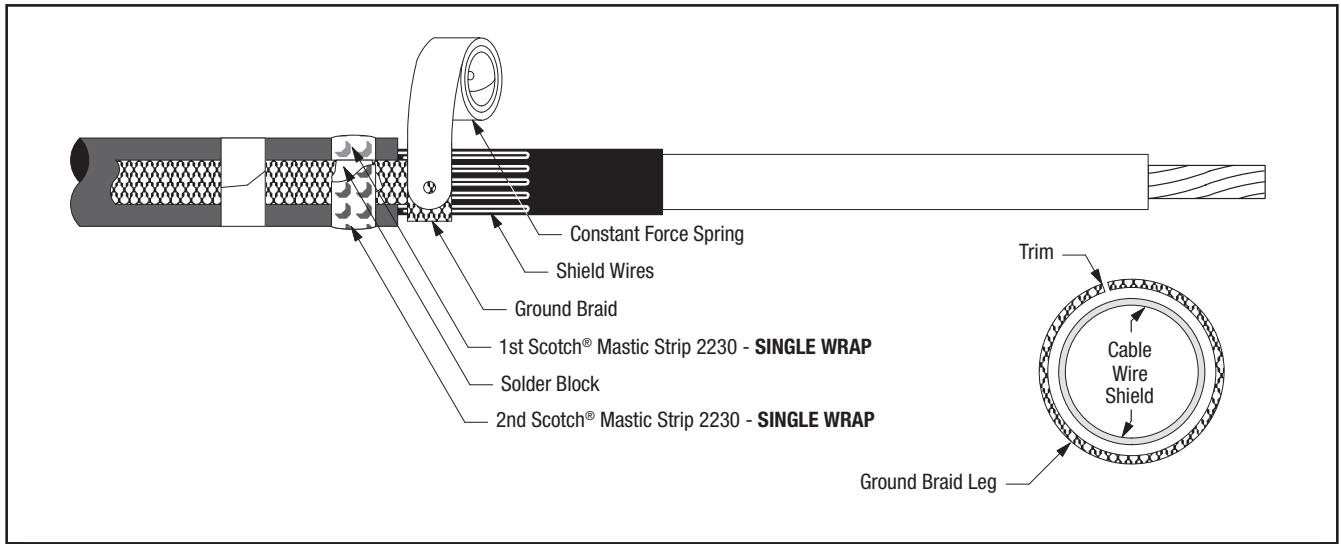

Figure 12
8.3 Wrap ground braid around cable shield wires one complete wrap, trim excess at approximately a 45 degree angle, and line up with the pre-bent 45 degree angle already on the ground braid, to prevent overlap. Secure in place with constant force spring. Wrap spring in same direction as ground braid (Figure 12). Cinch (tighten) the spring after wrapping the final winding.
8.4 Select second Scotch® Mastic Strip 2230 from kit and remove white release liners. Apply a second **SINGLE WRAP** of mastic over solder block on ground braid and previously applied mastic (Figure 12). Cut off excess.